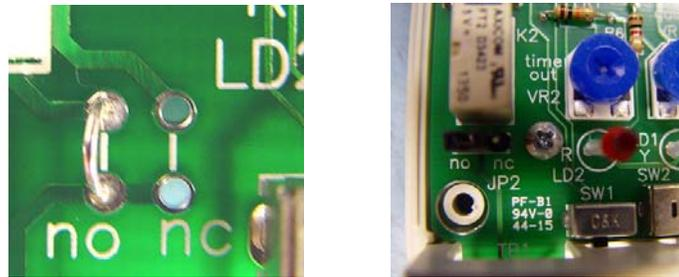

Fig. 2
4. To change the relay contacts to Normally Closed, open the cabinet as instructed in step 3 and cut the wire jumper marked "NO". Insert and solder another wire jumper in the "NC" position, or, in later versions, move the jumper from the NO position to the NC position. See figure 2.